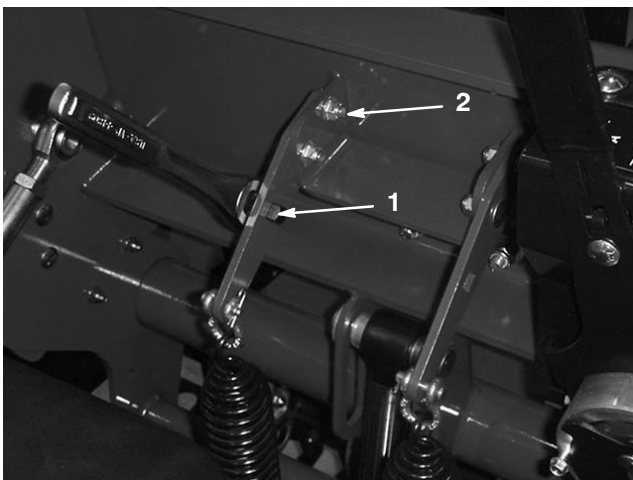

Figure 38
2. Insert a 1/2 inch ratchet or breaker-bar into the square hole in the spring plate (Fig. 38).